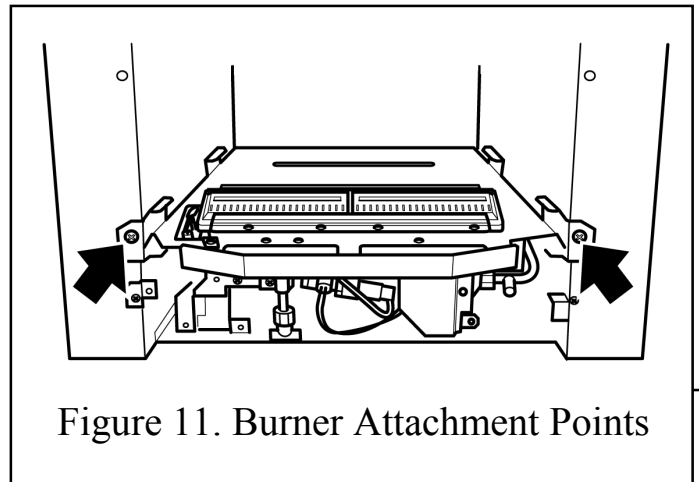

Figure 11. Burner Attachment Points
1. Detach the burner unit from the convection box by removing two screws - See figure 11. Lift the burner unit clear.